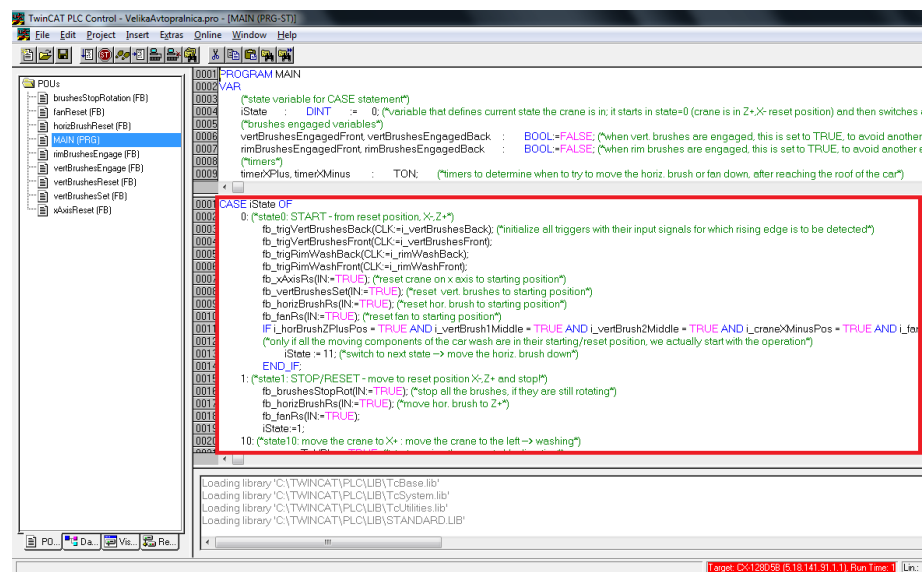

Figure 3.14: TwinCAT PLC Control - Main Programming Window
The main part of the code is written here. Depending on the PLC application that is programmed, appropriate language constructs, data types, decisions, loops etc. are used. More details about writing PLC application in a Structured Text (ST) programming language are presented in Chapter 3.5, here we present just an excerpt from a real-life application for you to get an insight how a PLC application looks like (Figure 3.14).